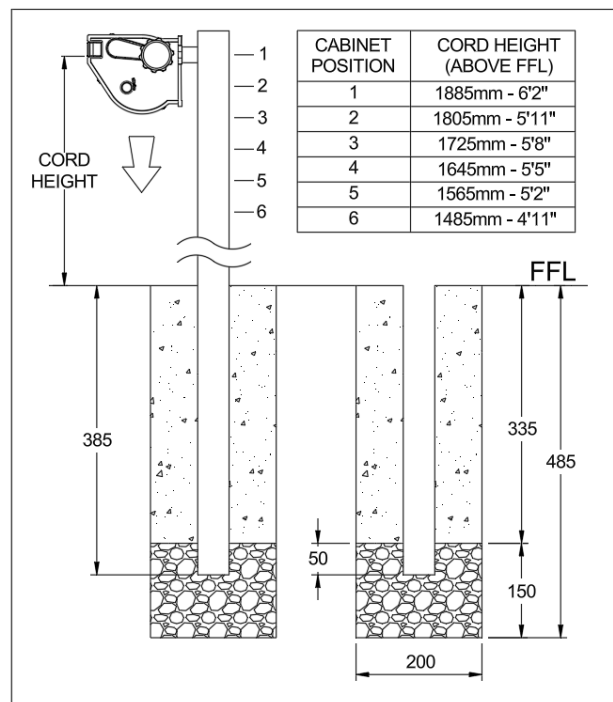

Fig. 6 In-Ground Install (Directly into soil).
- Install the Post at 385mm deep as per the below image (Fig. 6).
- Allow 24 hours for the concrete to set before installing the Retract Away cabinet at a position indicated in the table below (Fig 6). The cord should be approximately 50mm above the user's head.